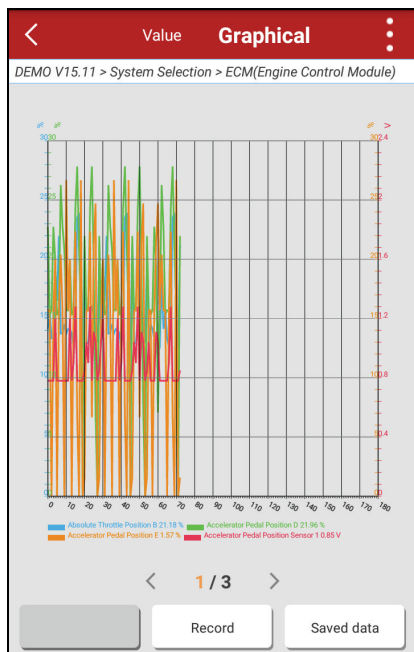

Fig. 5-13
- ✓ Combine – this option is mostly used in graph merge status for data comparison. In this case, different items are marked in different colors. See Fig. 5-13.